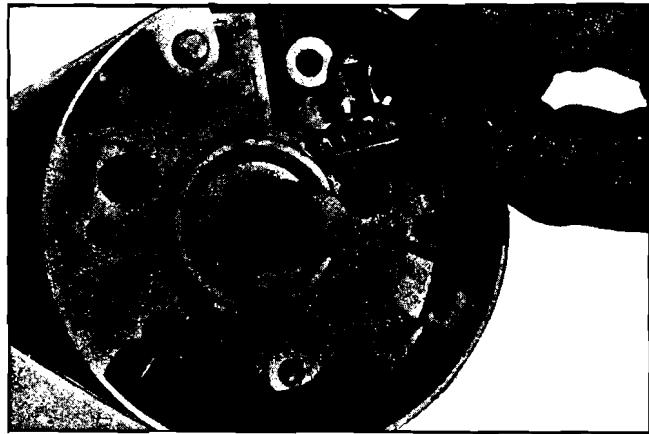

Fig. 9-11 Installing Buzzer Switch
2. Push switch and spring into hole with contacts toward the lock cylinder bore (Fig. 9-11).